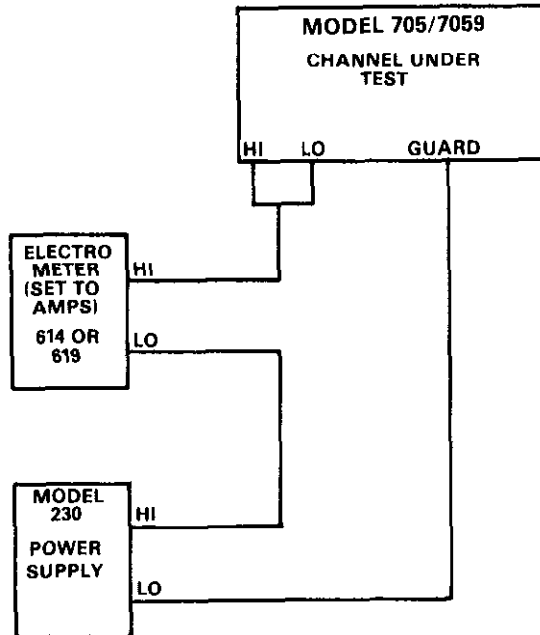

Figure 8. Common Mode Isolation Test Set Up
- A. This test measures the leakage resistance between signal lines and power line ground. Set up the test circuit shown in Figure 8.